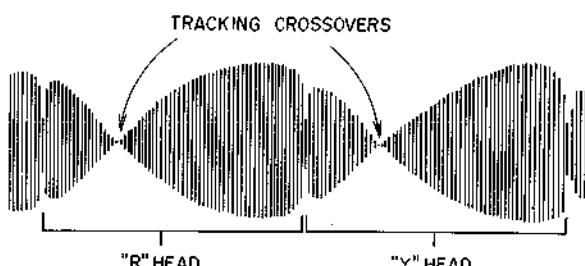
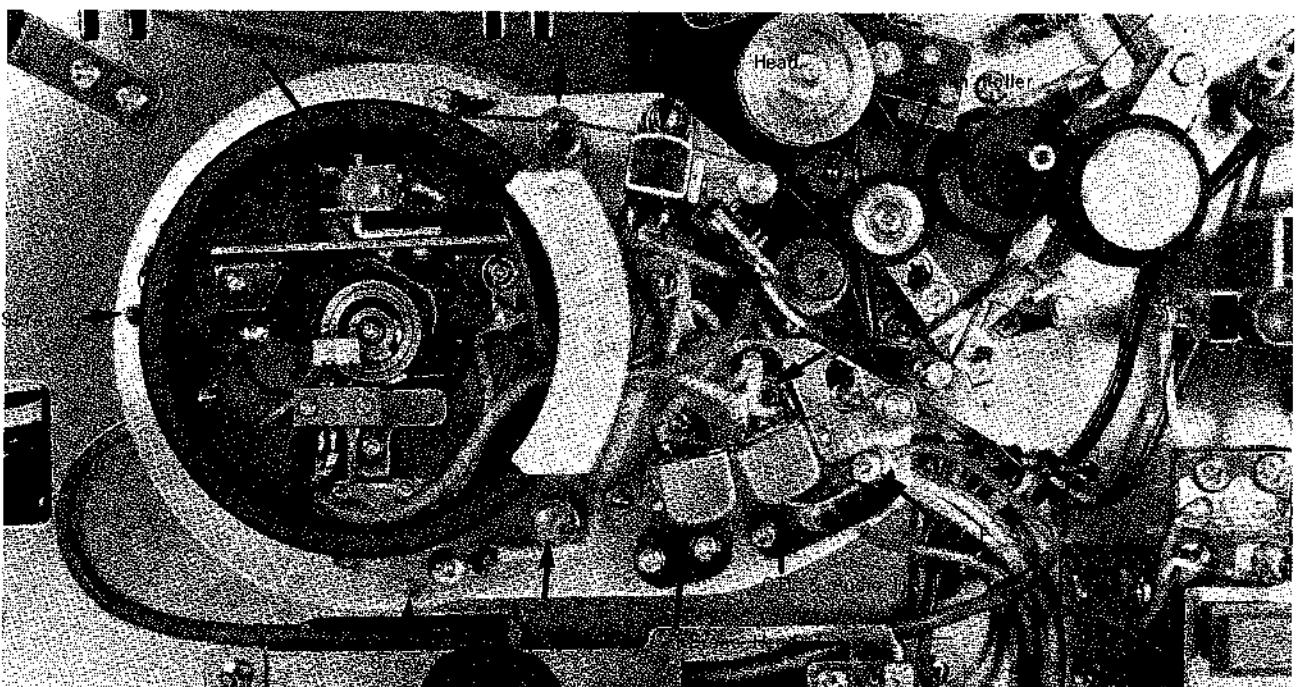

Fig. 12
Fig. 13
- If Tracking Crossover appears on RF Envelope as shown in Fig 12, adjust height of Tape Guides 'A' and 'B' (Refer to Fig. 13).
- If R.F. Envelope amplitude fluctuation still exists even after the above adjustments have been carefully completed, loosen Video Head Assembly Holding Screw and turn Screws 'G' and 'H' clockwise 1/2 or 1 turn (Fig. 13). At this condition, again carry out adjustment described in Item (f) above.